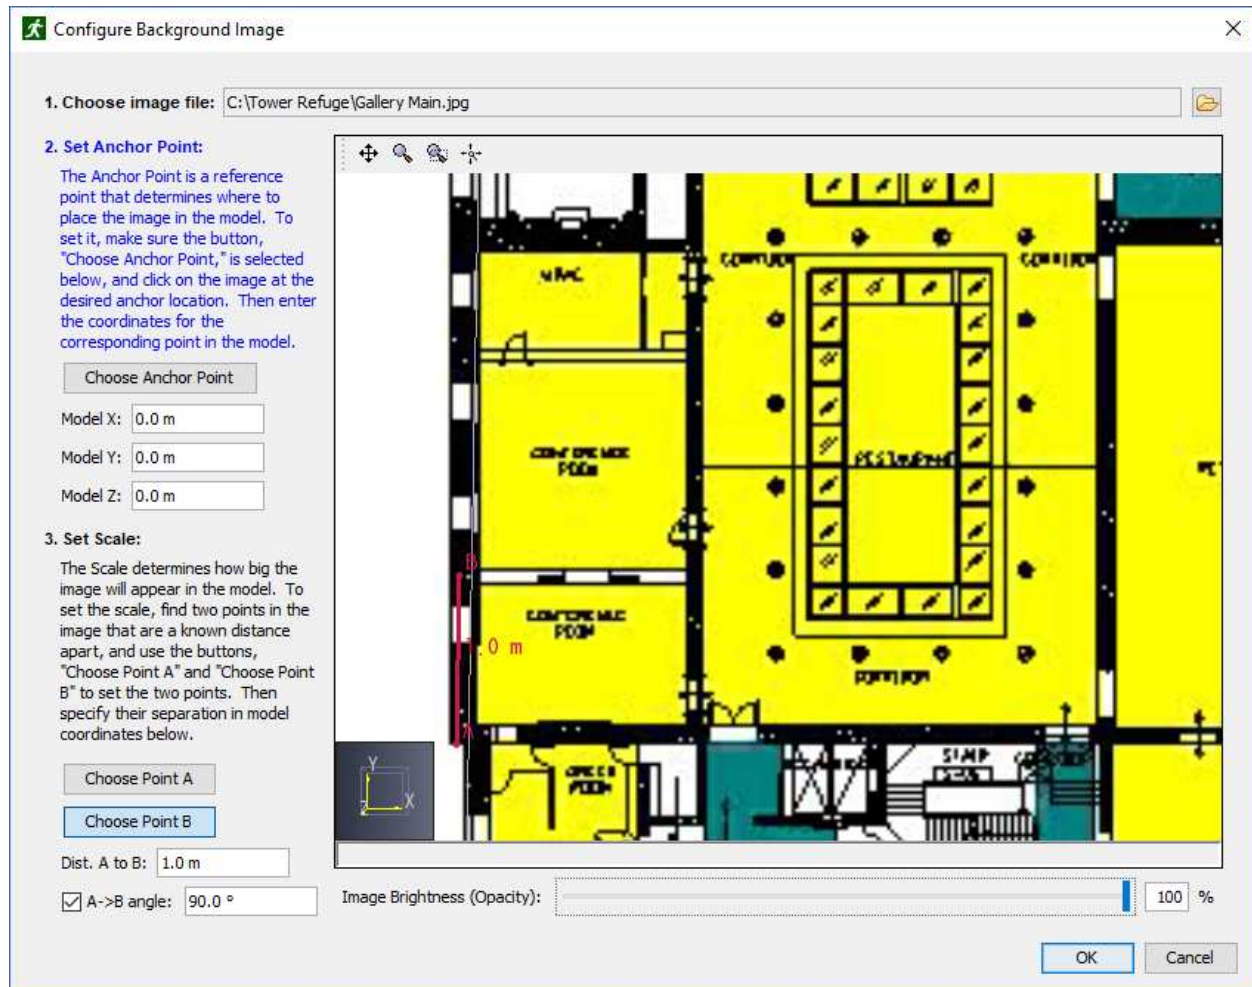

Figure 80. Set scaling points A and B
3. To specify the scaling for the image, two points, A and B, and a distance between them can be specified (Figure 80).